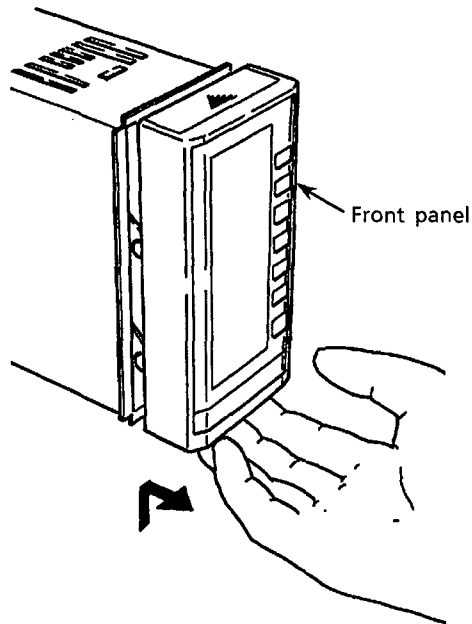

Figure 4.2 Swinging Up 1
- ① Push up the bottom center of the front panel gently (the lock is released when pushed up), and pull the front panel to the front until you feel resistance (see Figure 4.2). Then, stop there.